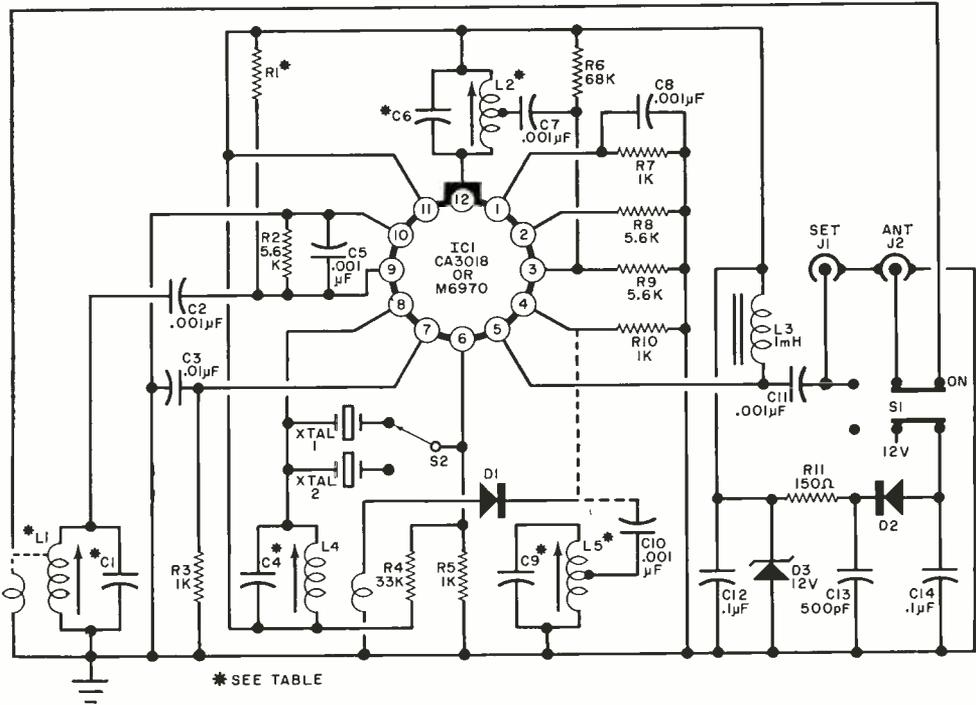

Fig. 1. This one-IC vhf converter is used with a conventional vehicle radio enabling monitoring of CAP, CD, volunteer fire and police bands.
**Construction.** The basic circuit of the frequency converter is shown in Fig. 1 and the component values for the various frequencies are given in the Table. The layout shown in Fig. 2 should be followed for best results. All connecting leads, especially those carrying r-f must be kept short. Be sure to observe the polarities of the diodes and the pin locations on the IC. Some type of clamp (or spring) must be used to keep the crystal holder seated. Note that the IC is mounted on standoff clips with the leads fanned out.